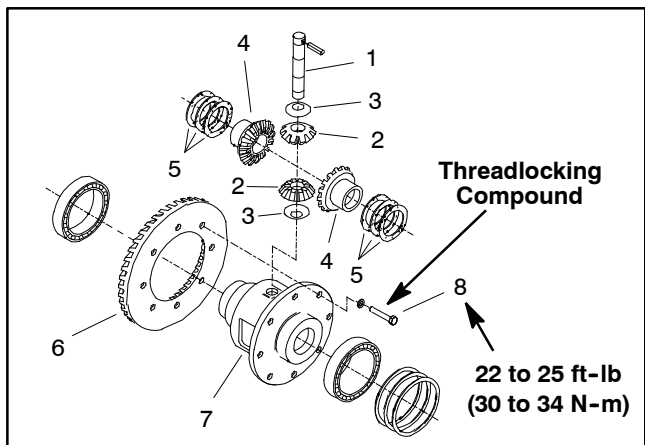

Figure 41
7. Remove the differential pinion shaft, pinion gears and pinion washers. Remove the differential side gears and side gear shims. Remove the ring gear only if it will be replaced (Fig. 41).